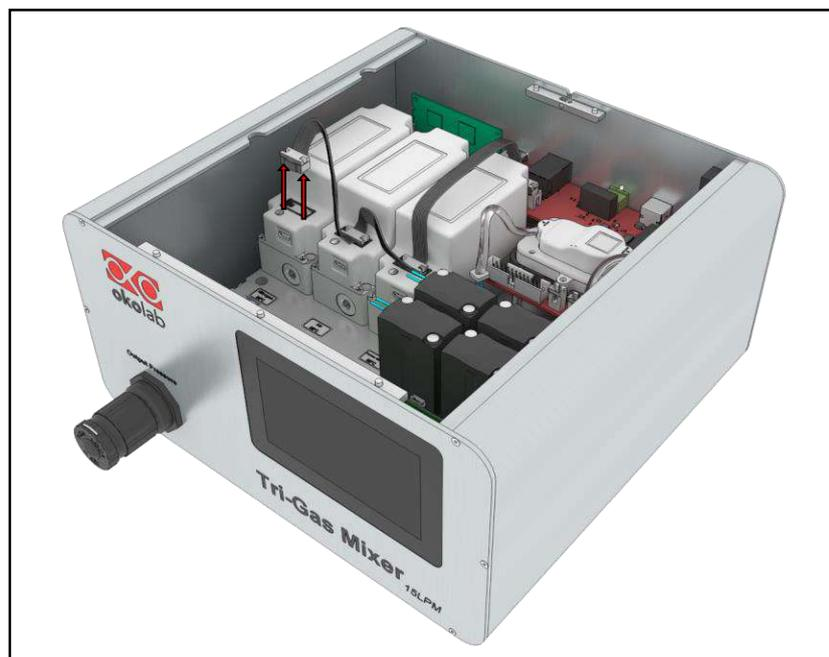

Figure 130. Ribbon cable disconnection
3. Disconnect the ribbon cable from the Gas Flow Controller, see Figure 130.